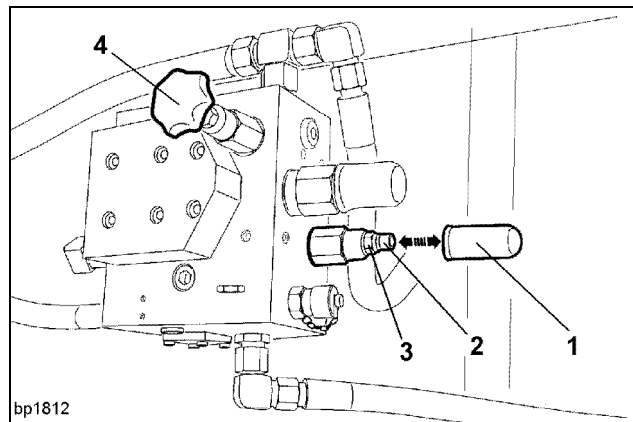

Fig. 6
If hard, loud switching noises from the rock valve become apparent during operation, screwing in the adjustment spindle (2) (Fig. 6) can dampen the limit stop further.